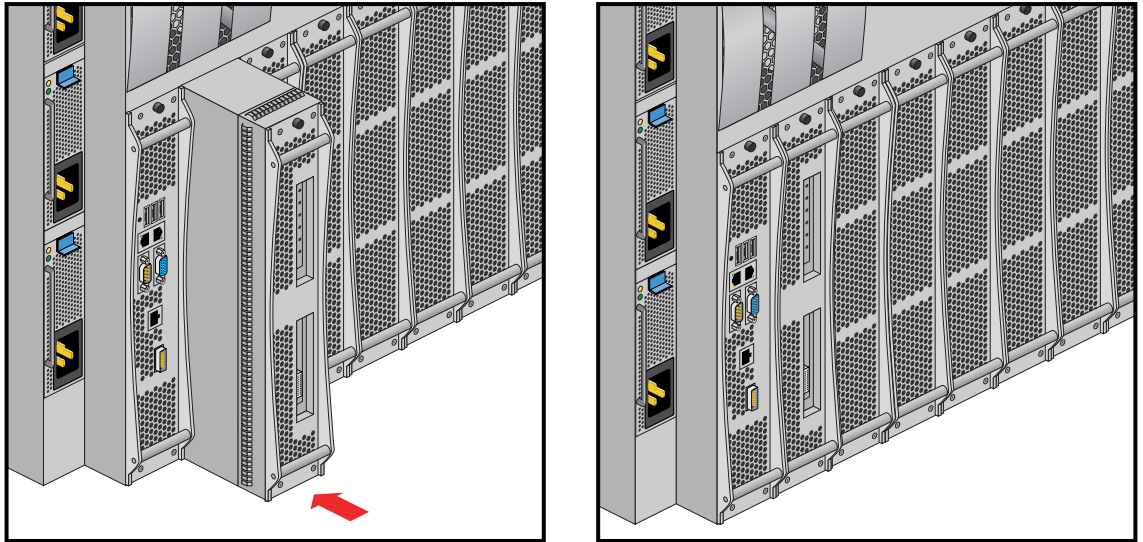

Figure 5-7 Replace the Blade After PCIe Installation
11. Slide the blade back into the IRU (see Figure 5-7 on page 65) seat it fully and restart the system or blade.